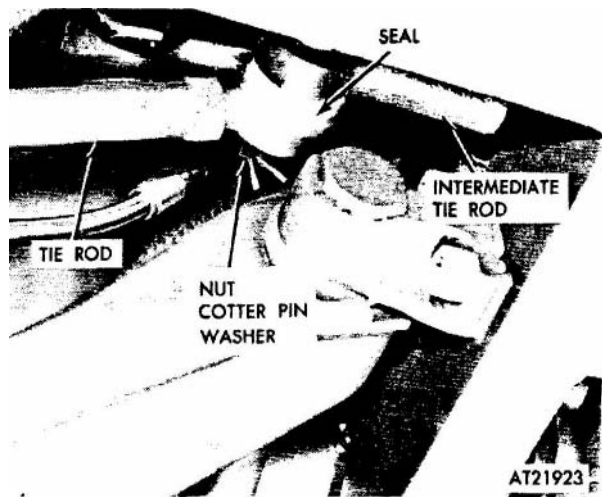

Figure 2-270. Carrier intermediate tie rod (at tie rod), removal and installation.
(1) Remove cotter pins and nuts securing **left- and right-hand** tie rod assemblies to intermediate tie rod. Disconnect tie rods from intermediate tie rod using removal tool (11595179). Discard seals (fig 2-270).
(3) Install two seals onto left and right tie rods. Position on intermediate rod assembly ends. Secure tie rods to intermediate rod assembly with nuts, washers and cotter pins (fig 2-270).
(4) Service intermediate tie rod assembly (refer to LO 9-2320-242-12).
(5) Perform wheel alignment (refer to para 2-169).